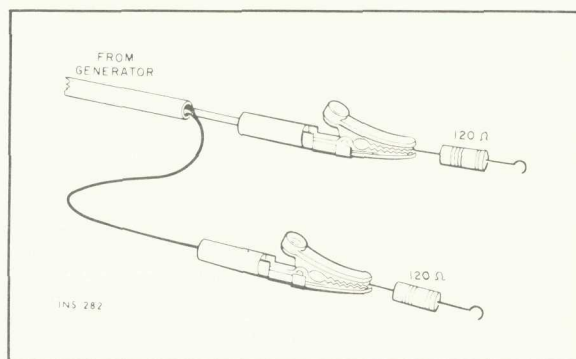
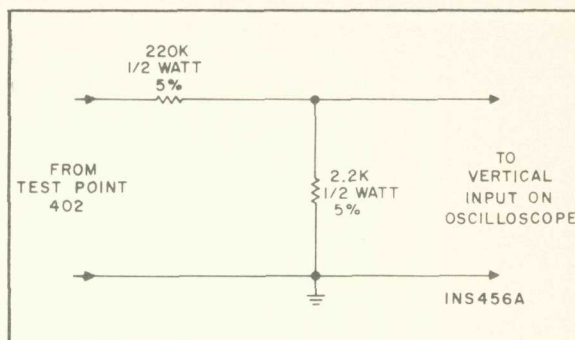

Figure 8. Connections To Provide 300-ohm Generator Output Impedance. Matching Resistors Reduce Generator Voltage by Half At Antenna Terminals.
Figure 11. Voltage Divider Probe.
- (1) Set MANUAL TUNING dial pointer to zero (0) calibration mark on the logging scale. If the dial pointer is not centered on the (0) at the extreme end of knob rotation, reposition the pointer assembly on the dial cord and cement the pointer in place to prevent slippage. Allow cement to thoroughly dry. **NOTE:** Repositioning dial pointer may require realignment of AM RF board for correct AM station calibration.
- (2) Connect an accurately calibrated DC VTVM to Test Point 701 (pin 7M on Muting board).
- (3) Set dial pointer to 2.3 on logging scale. Adjust R4 MANUAL TUNING pot. (fine adjustment) for 5.63V indication on DC VTVM. Disconnect DC VTVM from Test Point 701 (pin 7M).
- (4) Connect an FM generator to the FM ANTenna terminals. Use a 120-ohm composition resistor in series with each lead from the generator (see Figure 8).
- (5) Connect a scope and an AC VTVM to either the LEFT or RIGHT RCDR OUT jack.
- (6) Modulate FM generator with 400Hz, ± 75 kHz deviation. Set generator frequency to 90MHz. During alignment, adjust generator output as low as possible.
- (7) Align (oscillator coil) L754 first, then (RF transformers) L753, and L752, and (antenna coil) L751 for maximum indication on AC VTVM and oscilloscope.
- (8) Set generator frequency and dial pointer to 106MHz. Align (oscillator trimmer) C769 first, then (RF trimmers) C768, and C763, and (antenna trimmer) C754 for maximum indication on AC VTVM and oscilloscope.
- (1) Connect an FM generator to the FM ANTenna terminals. Use a 120-ohm composition resistor in series with each lead from the generator (see Figure 8).
- (2) Set MANUAL TUNING dial pointer to zero (0) calibration mark on logging scale. Set FM generator frequency to receiver frequency.
- (3) Connect a scope and an AC VTVM to either the LEFT or RIGHT RCDR OUT jack.
- (4) Modulate FM generator with 400 Hz, ± 75 kHz deviation.
(4) Connect scope vertical input to either LEFT or RIGHT RC DR OUT jack. Disconnect DC VTVM from pin 9P and reconnect to pin 9V. Connect a second DC VTVM to pin 9A (on AUTOSCAN board).
(5) Connect an FM generator to the FM ANTenna terminals. Use a 120-ohm composition resistor in series with each lead from the generator (see Figure 8). Modulate generator with 400 Hz, ± 75 kHz deviation. Set generator frequency to 88 MHz, and output level to 1,000 μ V.
(6) Press in right (upscale) AUTOSCAN TUNING pushbutton momentarily (release immediately after pushing in). AUTOSCAN circuit should tune receiver to FM generator signal and sine wave should appear on scope.
(7) Carefully adjust HOLD CONTROL pot. R916 (on AUTOSCAN board) for maximum reading on second DC VTVM (+3.5V to 4.5V on pin 9A). Note that first DC VTVM should indicate 0 volt on pin 9V when second DC VTVM indicates maximum voltage on pin 9A. Signal trace on scope should be clean sine wave.
(8) Reduce FM signal generator output level to 15 μ V. Sine wave on scope should remain locked in.
(9) Press in left (downscale) AUTOSCAN TUNING pushbutton momentarily, to make signal disappear. Press in right (upscale) pushbutton momentarily. AUTOSCAN circuit should retune receiver to FM generator signal and sine wave should reappear on scope.
(10) Set FM signal generator frequency to 108 MHz, and output level to 1,000 μ V. Press in right (upscale) pushbutton until AUTOSCAN circuit tunes to generator frequency. Repeat steps (8) and (9).
(1) Connect RF output of multiplex generator to the FM ANTenna terminals. Use a 120-ohm composition resistor in series with each lead from the RF output (see Figure 8). Set MPX generator for external modulation with 19 kHz pilot carrier, ± 7.5 kHz deviation (10% pilot, no audio). Tune receiver to RF frequency of MPX generator.
(2) Connect DC VTVM to Test Point 403 (pin 4G on AM/FM IF, MPX board).
(3) Adjust cores of Z401 and Z402 (on AM/FM IF, MPX board) for maximum reading on DC VTVM.
(4) Connect output of audio generator, set for 1 kHz, to the external modulation input of MPX generator and to external sync input of an oscilloscope. Adjust audio generator level for composite signal ± 75 kHz deviation (10% pilot, 90% audio).
(5) Connect AC VTVM to LEFT RC DR OUT jack. Connect scope through voltage divider probe (see Figure 11) to Test Point 402 (4K on AM/FM IF, MPX board).